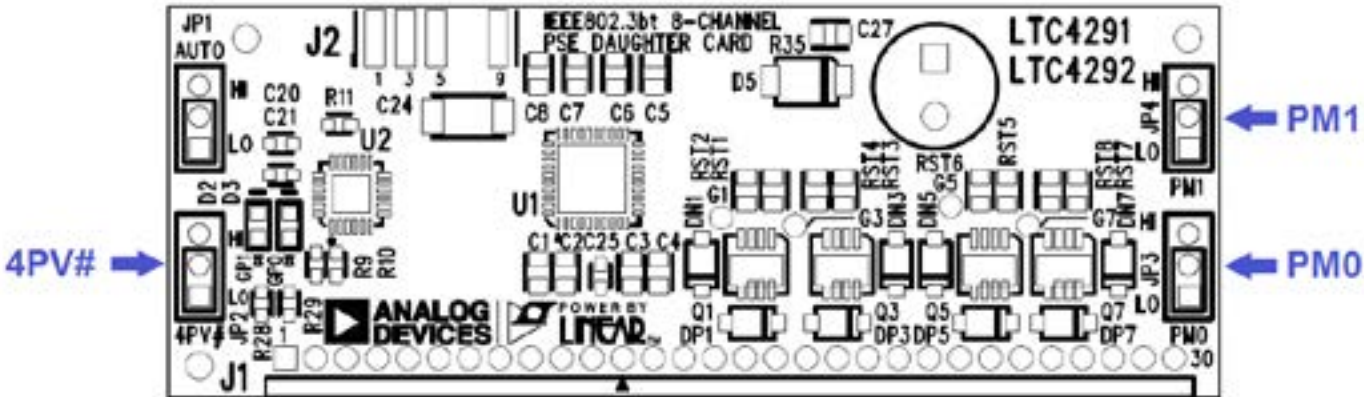
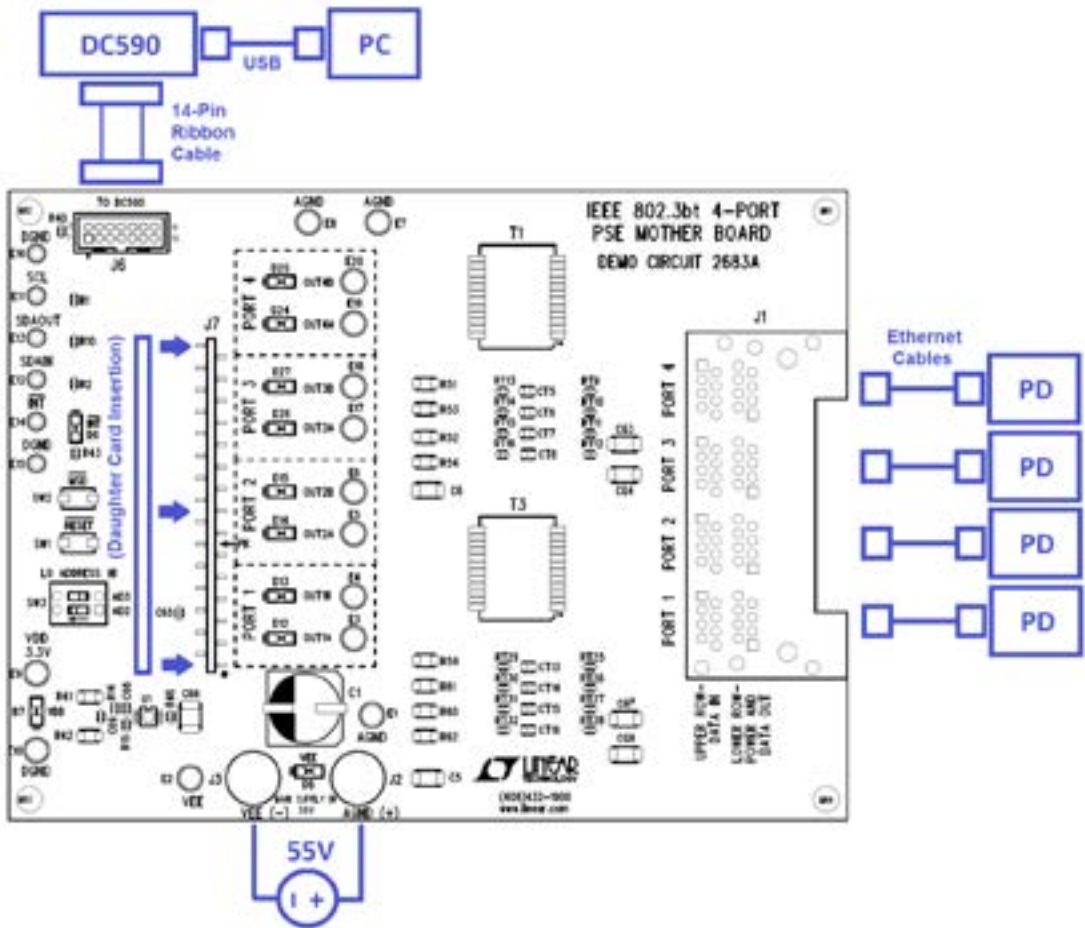

Figure 1. DC2684A Jumpers: 4PV#, PM0 and PM1
Figure 3. DC2685A Kit Connections
Follow the quick start procedure below for basic operation of the DC2685A kit. Refer to Figure 1 through Figure 3 and Table 1 through Table 4 for proper equipment setup.
1. On the DC2684A daughter card set 4PV# jumper JP2 (Figure 1) to a selected 4-Pair Valid setting as shown in Table 1.
2. On the DC2684A daughter card set PM1 jumper JP4 and PM0 jumper JP3 (Figure 1) to the power mode for evaluation specified in Table 2.
4. Connect a supply to the motherboard with the positive rail to AGND (+) and negative rail to V_{EE} (–) as shown in Figure 3. Use a power supply capable of sourcing the maximum delivered power for all four ports set by JP3 and JP4 on the daughter card (or I²C configured power). Ramp the supply up to within the recommended voltage range specified in Table 3.
7. Connect the DC590 to the DC2683A at connector J6 with a 14-pin ribbon cable as shown in Figure 3 and open the QuikEval GUI. A GUI for the LTC4292/LTC4291 is brought up by QuikEval. (Follow the DC590 demo manual instructions if this has not been previously setup.)
9. Connect up to four PDs to the DC2685A RJ45 connector J1, bottom row ports 1-4 as shown in Figure 3.
The V_{EE} supply is the main PoE supply and connects to the DC2683A with the positive rail to AGND (+) and the negative rail to V_{EE} (–) as shown in Figure 3 of the Quick Start Procedure. The voltage must be within the range shown in Table 3 depending on the application PSE type. For full load testing at each port, choose a power supply that is set with a current limit higher than the maximum allowed output power at each port.